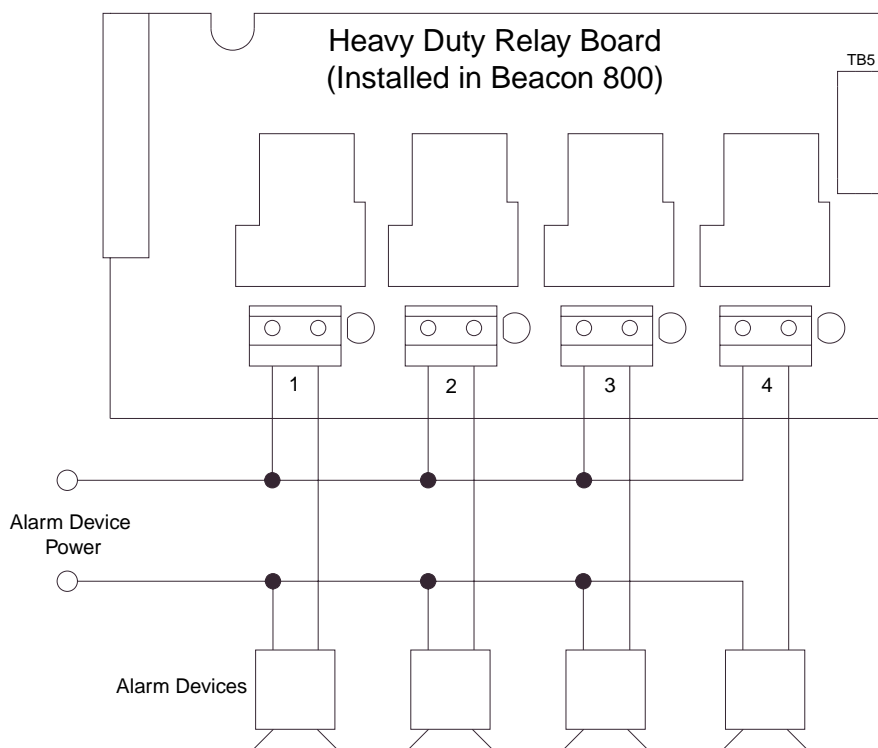

Figure 16: Wiring the Heavy Duty Relay Board
7. Connect the wires to the heavy duty relay board, a power source, and the device as illustrated in Figure 16.